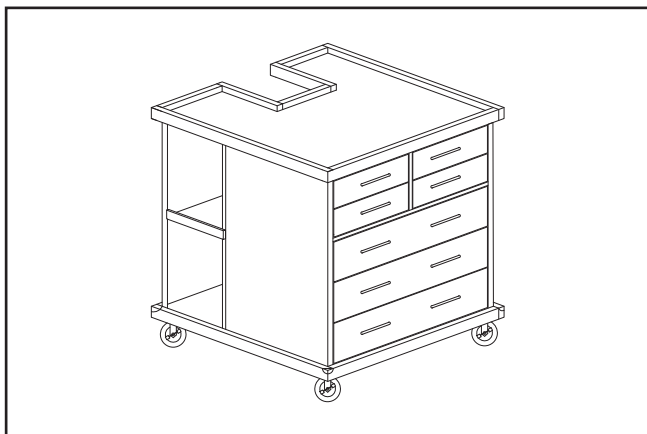

Figure 4. Complete cabinet assembly.
4. Complete cabinet assembly should resemble **Figure 4**.